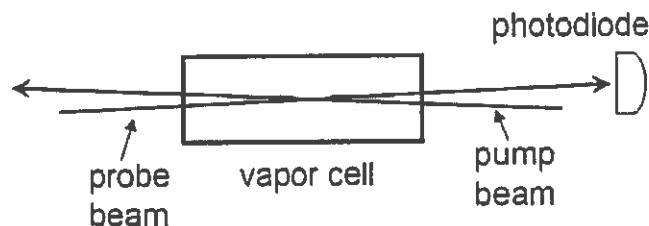

Figure 1. The basic saturated absorption spectroscopy set-up.
**Qualitative Picture of Saturated Absorption Spectroscopy – 2-Level Atoms.** Saturated absorption spectroscopy is one simple and frequently-used technique for measuring narrow-line atomic spectral features, limited only by the natural linewidth  $\Gamma$  of the transition (for the rubidium D lines  $\Gamma \approx 6$  MHz), from an atomic vapor with large Doppler broadening of  $\Delta\nu_{Dopp} \sim 1$  GHz. To see how saturated absorption spectroscopy works, consider the experimental set-up shown in Figure 1. Two lasers are sent through an atomic vapor cell from opposite directions; one, the “probe” beam, is very weak, while the other, the “pump” beam, is strong. Both beams are derived from the same laser, and therefore have the same frequency. As the laser frequency is scanned, the probe beam intensity is measured by a photodetector.